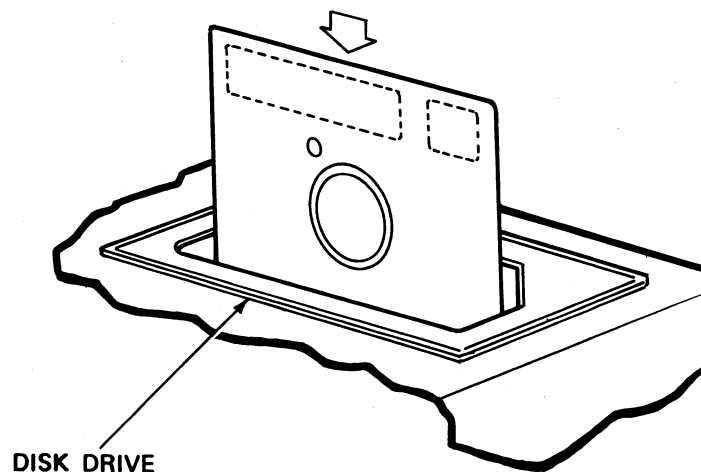

Figure 4-3. ICMD Disk Insertion
3. Insert the Disk as shown in figure 4-3.